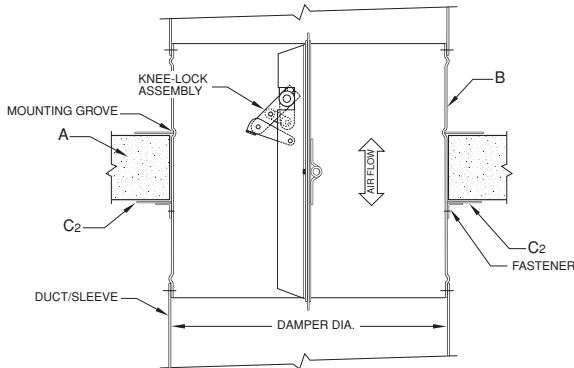
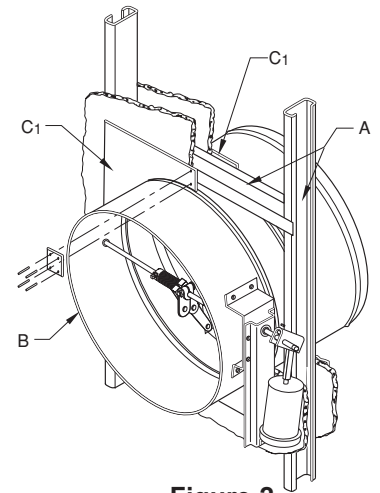

Figure 1a
Figure 2
- A. Concrete or masonry fire partition shown in figure 1a and 1b. Wood or steel stud fire partition shown in figure 2. See Wood Stud and/or Steel Stud Framing for Fire Dampers In Drywall and/or Cavity Shaftwall Partitions Supplemental Installation Instructions for further vertical installation details. The square or round opening shall be a minimum 1/4" (6) larger than the damper sleeve/frame. Damper must be installed with the leading edge of the closed blade within the partition. Damper may be installed with the blade a maximum of 15 degrees from horizontal. For mounting angles that are up to and including 1-1/2" high, the opening shall be a maximum of 3/4" (19) larger than the overall damper and sleeve assembly. When openings are larger than 3/4" (19), but less than 6" (152) the mounting angles must be a minimum of 16 gauge (1.5) and must be tall enough to overlap the opening by a minimum of 1" (25).
- B. The connecting duct shall not be continuous, and shall terminate at the sleeve/frame using one or more of commonly used break away style connections. Refer to Sleeve Termination Supplemental Installation Instructions for further details. Damper sleeve shall not extend more than 16" (406) beyond the rated partition on the actuator side. The opposite side extension shall be a maximum of 6" (152) unless an access door is installed in the sleeve which then permits the extension to be a maximum of 16" (406).